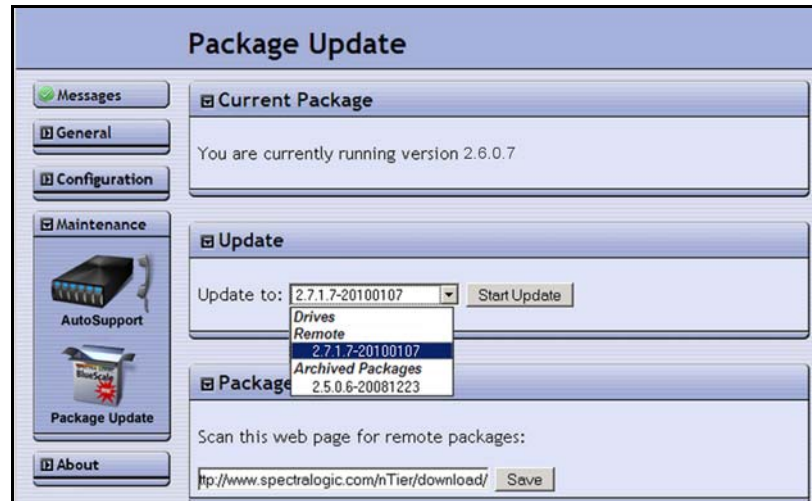

Figure 22 The Package Update page with available firmware package files listed.
<p>The nTier700 cannot access an outside web site because of security or firewall requirements, —OR— The default Spectra Logic package server option is not available,</p>	<ol style="list-style-type: none"> 1. Download the current firmware package from the location provided by Spectra Logic Technical Support. 2. Save the downloaded firmware file to a USB drive. 3. Connect the USB drive to one of the USB ports on the back of the nTier700. 4. Select the firmware package from the ones listed under Drives on the Package Update screen (see Figure 22 on page 57). <p>—OR—</p> <ol style="list-style-type: none"> 1. Download the current firmware package from the location provided by Spectra Logic Technical Support. 2. Save downloaded firmware file to a previously configured package server that is accessible from the nTier700. 3. Enter the URL for this package server as the remote package server (see Figure 22 on page 57).
- The most current available firmware package found during the scan displays in the **Update to** field. In Figure 22, the most current version is on the nTier firmware downloads page on the Spectra Logic web site.